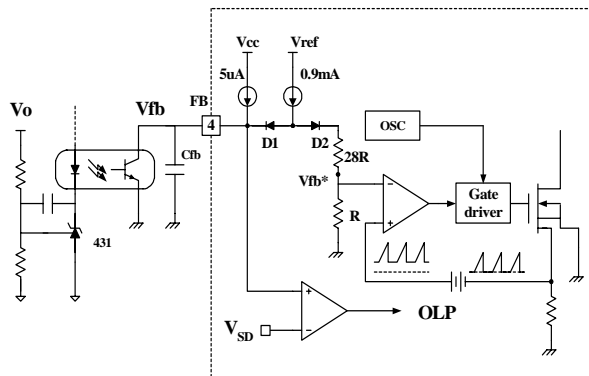

Figure 2. Pulse width modulation (PWM) circuit
2. Feedback Control : The FS6X1220RT employs current mode control. The voltage of the feedback pin is compared with the current sense voltage for pulse width modulation (PWM). Figure 2 illustrates the simplified PWM block. The feedback voltage determines the peak drain current of the SenseFET. Usually opto-coupler along with TL431 are used to implement feedback network. The collector of the optocoupler transistor is connected to feedback pin and the emitter is connected to the ground pin. When the voltage of the reference pin of TL431 exceeds the internal reference voltage of 2.5V, the optocoupler diode current increases, pulling down the feedback voltage.
3.1 Pulse-by-pulse current limit : As shown in figure 2, the drain current of the power MOSFET is limited by the inverting input of PWM comparator (V_{fb}^*). Assuming that the 0.9mA current source flows only through the internal resistor ($28R + R = 2.9k$), the cathode voltage of diode D2 is about 2.6V. Since D1 is blocked when the feedback voltage (V_{fb}) exceeds 2.6V, the maximum voltage of the cathode of D2 is 2.6V. Therefore, the maximum value of V_{fb}^* is about 0.1V, which limits the peak value of the power MOSFET drain current.